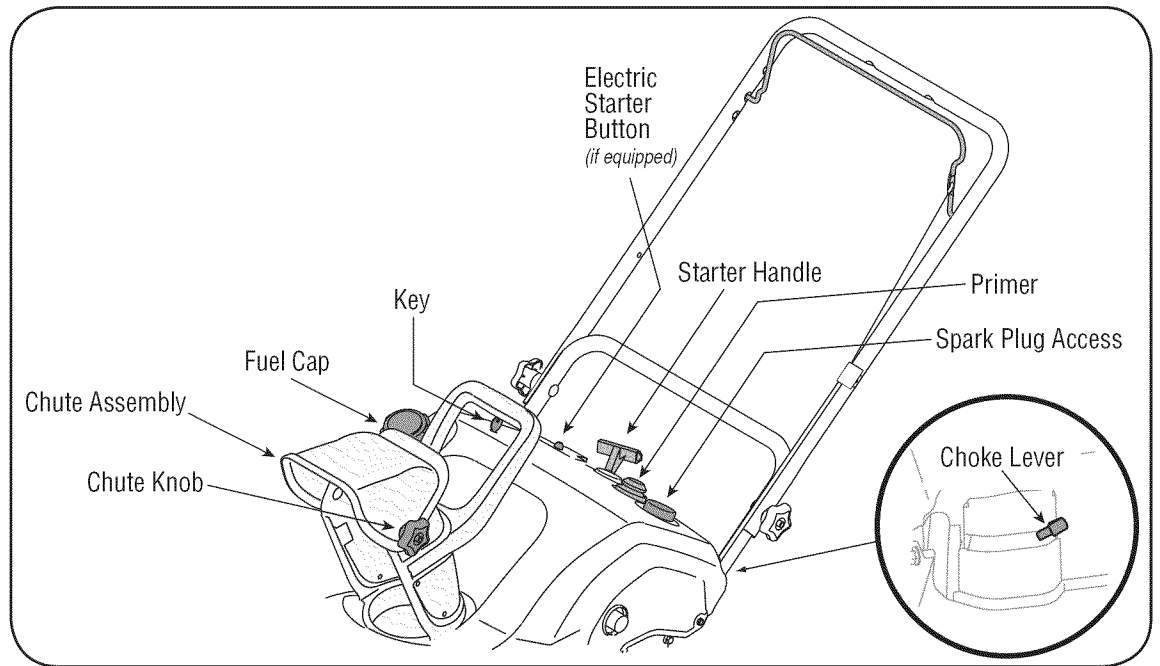

Figure 5-1
2. Position the chute assembly opening by using the Chute Handle to throw the snow in the desired direction. See inset Figure 5-1.